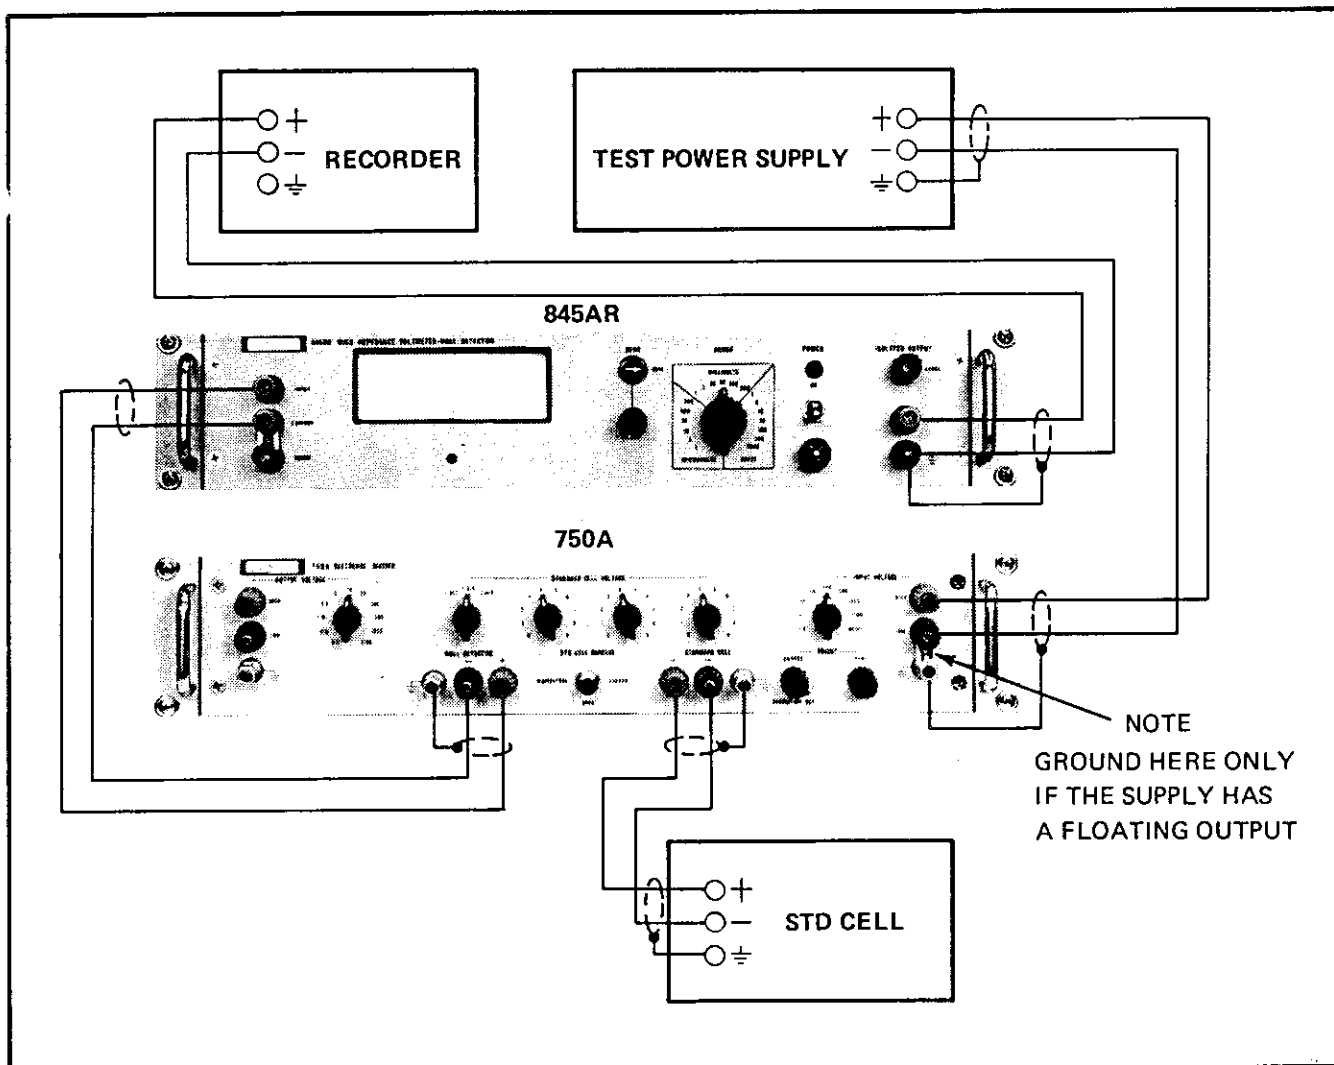

Figure 2-15. CONNECTIONS FOR STABILITY MEASUREMENTS, SYSTEMS 7100B, 7101B AND 7105A
- a. Make the appropriate equipment connection illustrated in Figures 2-15 or 2-16. Ensure that the Model 750A STD CELL CIRCUIT switch is set to the OPEN position.